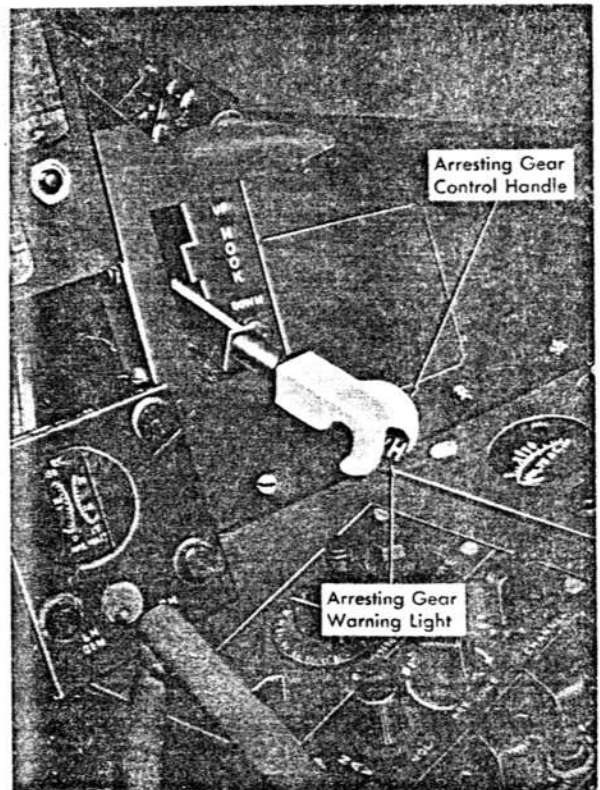

Figure 1-31. Arresting Gear Control and Indicator
**ARRESTING GEAR CONTROL HANDLE.** The hook-shaped arresting gear control handle (figure 1-31) is located on the forward end of the right-hand console. Moving the handle to "HOOK DOWN" releases the tension on the control cable, releasing the arresting gear up lock. The handle also actuates the control handle microswitch. This energizes the arresting hook safety relay which pressurizes the utility hydraulic system depressurized-in-flight line, interrupts the armament circuits, and completes the ap-
**ARRESTING GEAR WARNING LIGHT.** The arresting gear warning light (figure 1-31) is located in the arresting gear control handle. The warning light is illuminated when the control handle is in "HOOK DOWN" and the arresting gear is not completely down.